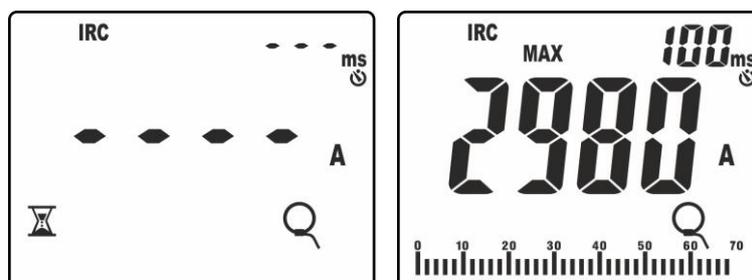

Fig. 41: Recognition of inrush current event
8. Press key **GO/STOP** to activate the function. The instrument waits for the event to be recognized (measured value higher than the fixed trigger threshold equal to **1%FS clamp: e.g. 30A with FS = 3000A**) and shows symbol “⌚” on the display (see Fig. 41 – left side).
9. Upon recognition of the event, **measurement stops automatically** and the instrument shows, in its main display, the **Max RMS** value calculated according to the evaluation time of **100ms** (default) indicated on the secondary display (see Fig. 41 – right side).